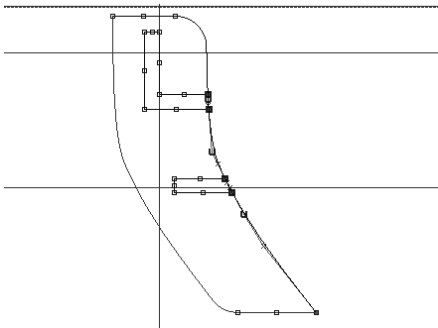

Figure 7-87 New curve sections
6. Select the two polylines; the duplicate curve gets sectioned at intersection points with polylines. As a result, new curve sections are created in the duplicate curve at its intersection with polylines, as shown in Figure 7-87.